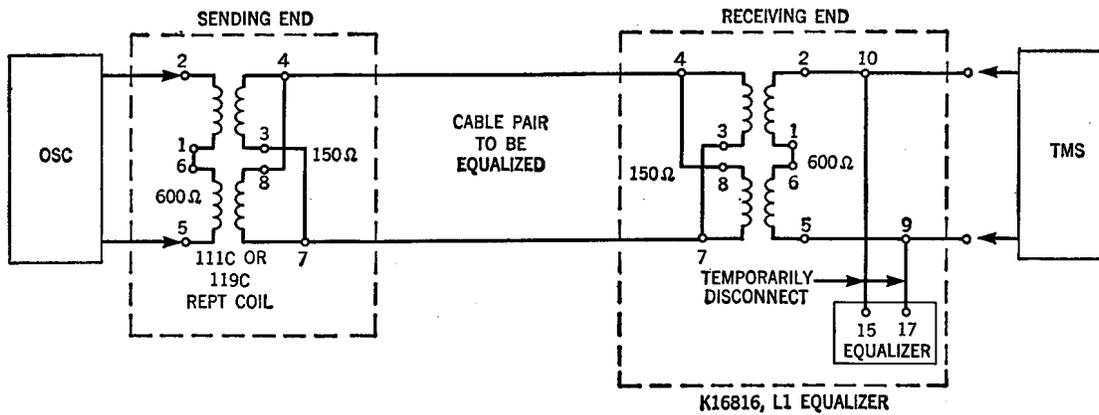

Fig. 2 — Test Setup for Equalizing a Single Section Using KS-16816, L1 Equalizer
**2.05** One of the big advantages of the KS-16816, L1 Equalizer is that it has an adjustable resistance element which eliminates the need for soldering such as is necessary with the SD-55503-01 Equalizer. This speeds up the equalization, considerably. Chart II gives the procedure for making this test with the KS-16816, L1 Equalizer. The test setup is shown in Fig. 2.
4	Connect equalizer to the circuit as shown in Fig. 2.